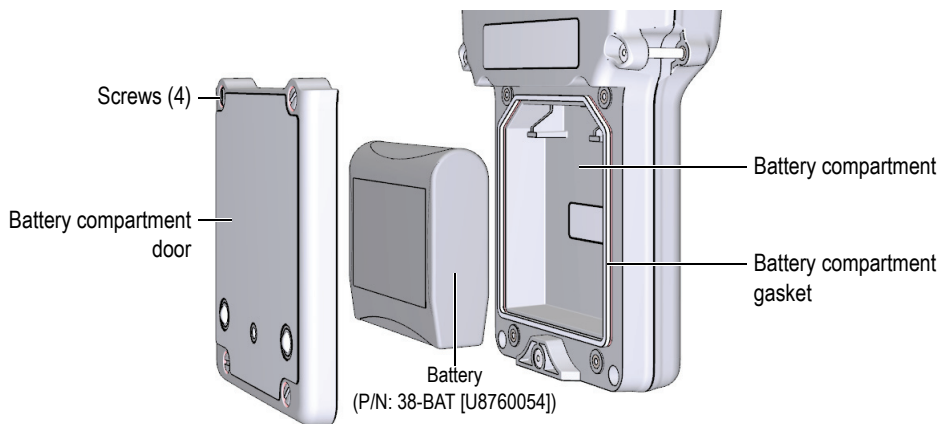

Figure 2-4 Opening the battery compartment
The battery is located in a compartment that is accessible from the back of the 38DL PLUS (see Figure 2-4 on page 30).
6. At the back of the instrument, unscrew the four screws of the battery compartment cover (see Figure 2-4 on page 30).